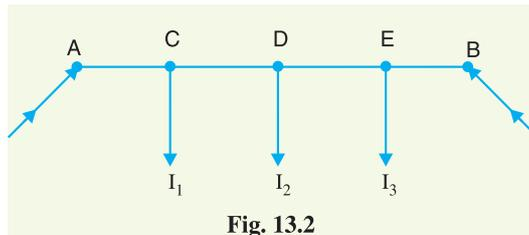

Fig. 13.2
- (ii) **Distributor fed at both ends.** In this type of feeding, the distributor is connected to the supply mains at both ends and loads are tapped off at different points along the length of the distributor. The voltage at the feeding points may or may not be equal. Fig. 13.2 shows a distributor  $AB$  fed at the ends  $A$  and  $B$  and loads of  $I_1$ ,  $I_2$  and  $I_3$  tapped off at points  $C$ ,  $D$  and  $E$  respectively. Here, the load voltage goes